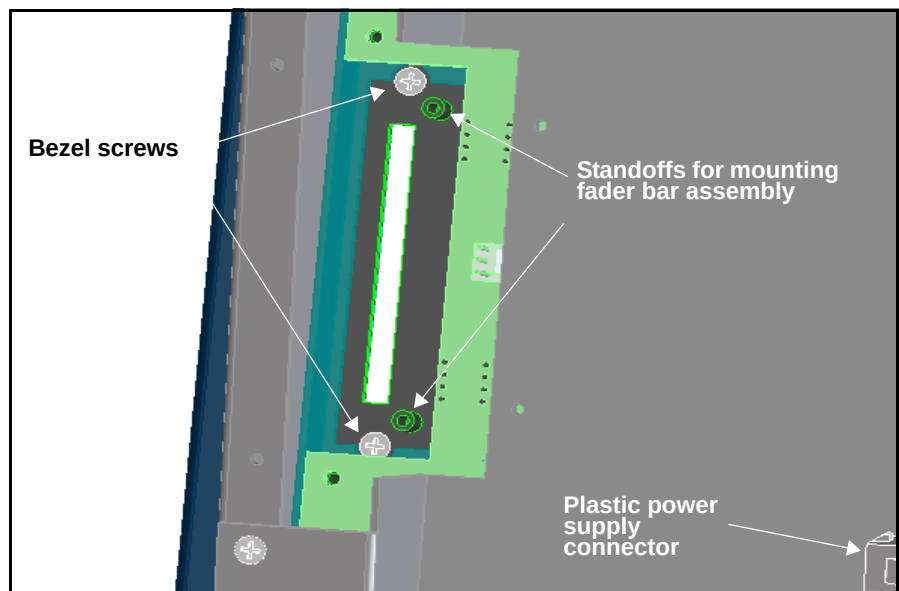

Figure 2-48. Securing the New Bezel
3. Inside the panel (as shown in Figure 2-48 on page 64), remove the two screws that secure the existing plastic bezel, retaining the screws for future use.
2. Turn the panel back over to reveal its underside, and then, using the original bezel screws, secure the new fader bar bezel (see Figure 2-48).